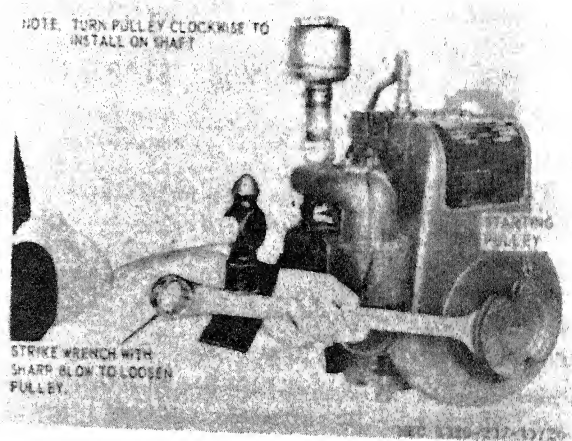

Figure 26. Starting pulley, removal and installation.
a. Removal. Refer to figure 26 and remove the starting pulley.
- (1) Clean the starting pulley with an approved cleaning solvent; dry thoroughly.
- (2) Inspect the starting pulley for cracks, distortion, chipped or broken pulley edges, and worn or damaged threads. Replace a damaged starting pulley.
c. Installation. Refer to figure 26 and install starting pulley.